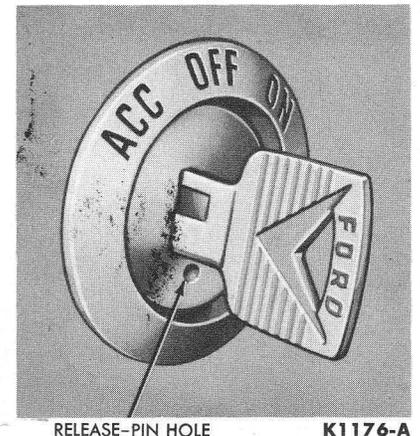

FIG. 10—Ignition Switch Removal
2. Turn the ignition key to the accessory position. Slightly depress the pin shown in Fig. 10, turn the key counterclockwise, and pull the key and lock cylinder out of the switch assembly. If only the lock cylinder is to be replaced, proceed to step 9.
the ignition switch, depress the pin slightly (Fig. 10), and turn the key counterclockwise. Push the lock cylinder into the switch. Turn the key to check the lock cylinder operation.